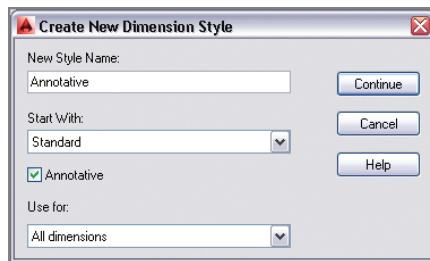

FIGURE 13.6 Creating an annotative dimension style
2. Type **D** (for Dimension Style), and press Enter. Click the New button in the Dimension Style Manager to bring up the Create New Dimension Style dialog box. Type **Annotative** in New Style Name, and click the Annotative check box (see Figure 13.6). Then do the following: